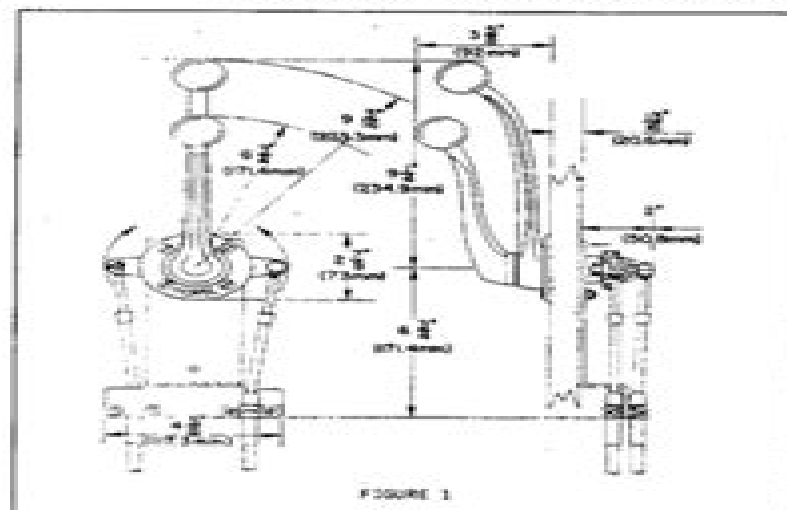

FIGURE 1
- b. Adequate clearance must be provided to allow the hand levers to move through their full ranges. Be sure there is ample space behind the mounting surface for the cable hanger plate and an unobstructed path for the push-pull cables. (See Figure 1)